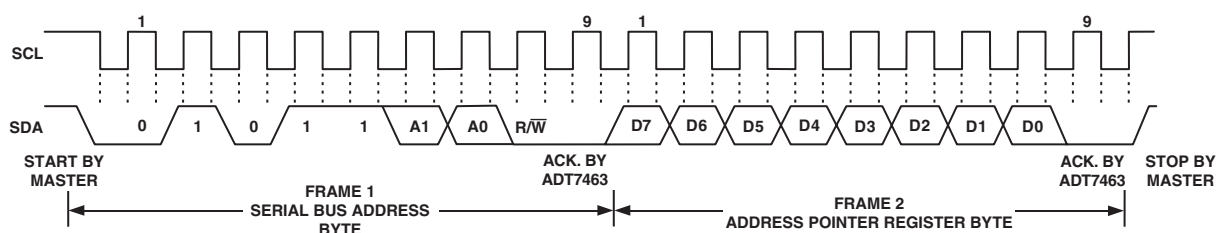

Figure 8. Writing to the Address Pointer Register Only
1. If the ADT7463's address pointer register value is unknown or not the desired value, it is first necessary to set it to the correct value before data can be read from the desired data register. This is done by performing a write to the ADT7463 as before, however, only the data byte is sent and this contains the register address. This is shown in Figure 8.
2. If the address pointer register is already at the desired address, data can be read from the corresponding data register without first writing to the address pointer register, so Figure 8 can be omitted.